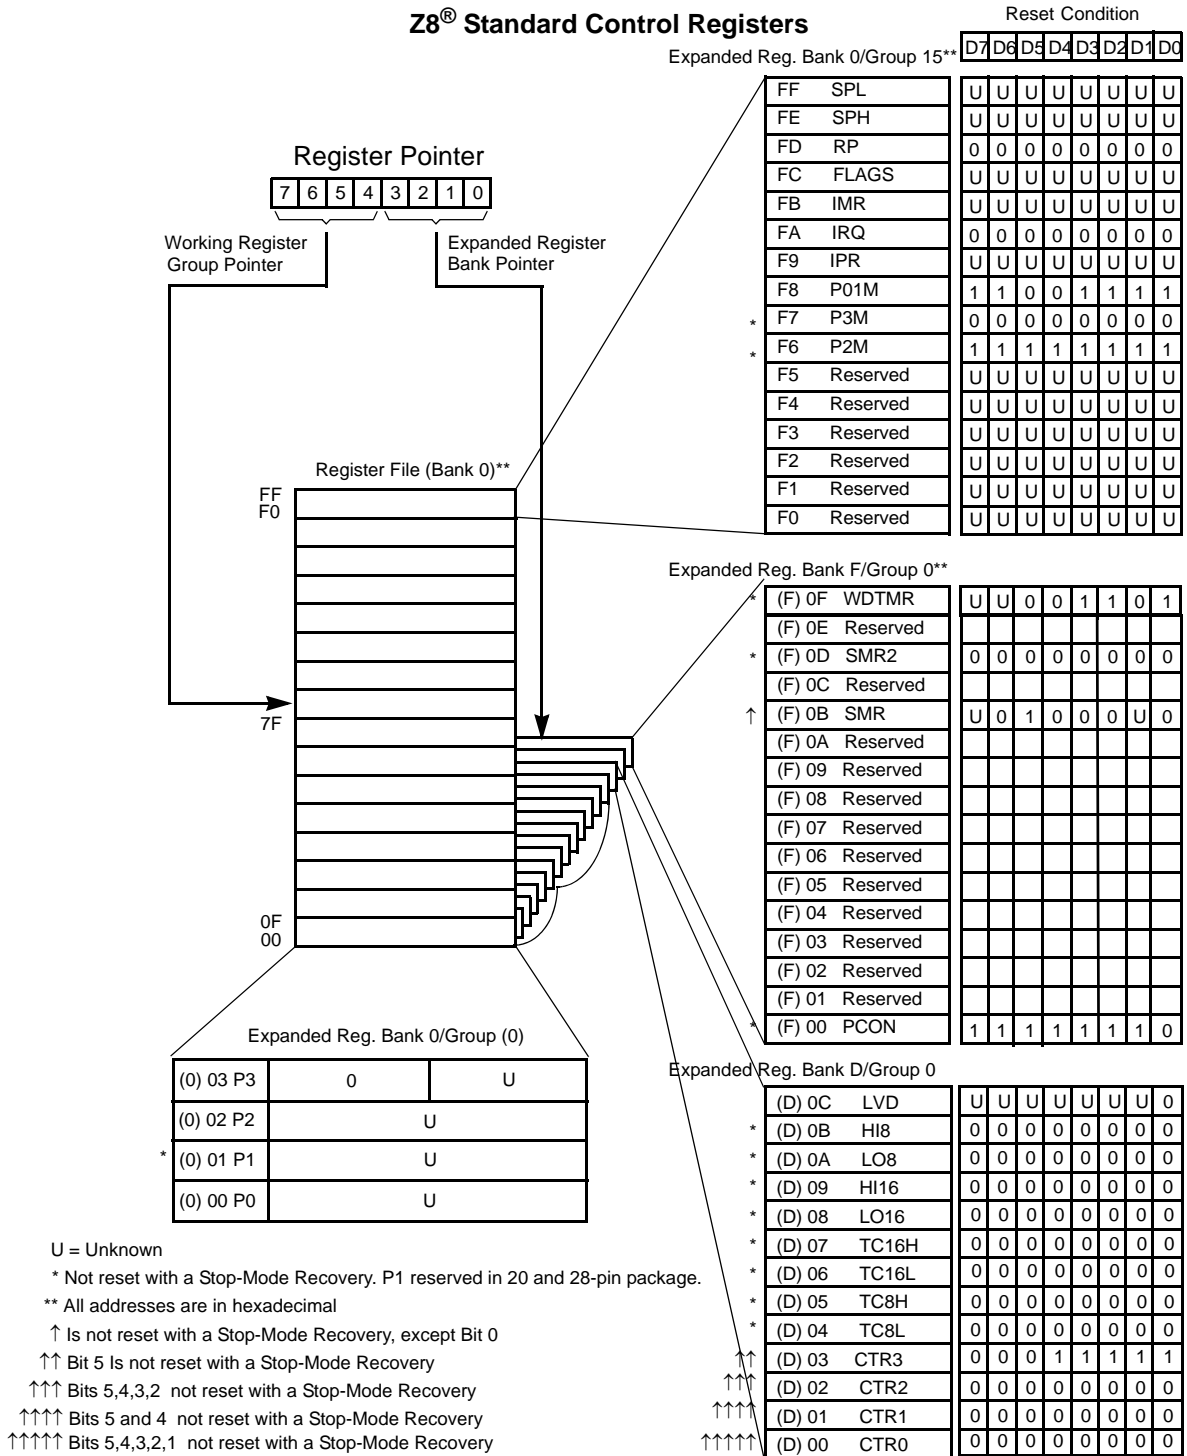

Figure 14. Expanded Register File Architecture
- ▶ **Note:** An expanded register bank is also referred to as an expanded register group (see Figure 14).
Example: Crimzon™ ZLR32300: (See Figure 14 on page 25)